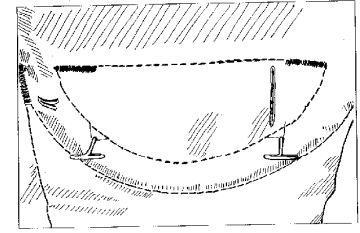

Figure 6
- 2.3 Using the T-Pins, transfer the bottom corner marks to the outside of the backpad. Make sure that the pins go straight thru and not on an angle. Figs. 6 & 7.